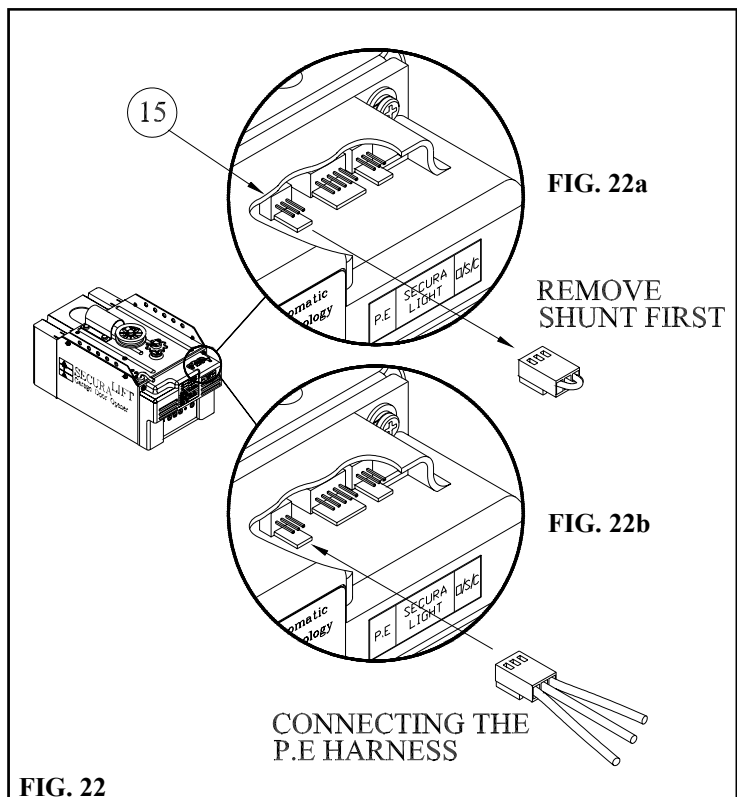

FIG. 22
4. To recall the factory set default light time press in and hold together the Auto Close Time button 5, the Force Margin Set button 14 and the Reset button 6 for about 2 seconds. (FIG. 22)